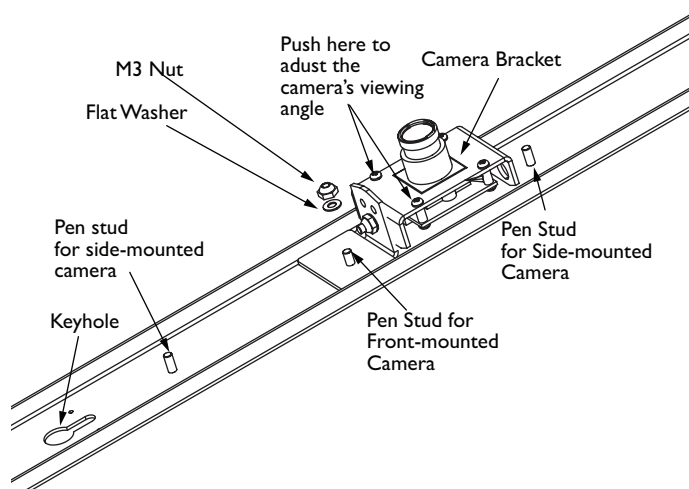

Figure 4 Close up View Camera Position
2. To relocate the existing camera, use a 5.5mm (or 7/32") nut driver to remove the M3 nut that attaches the camera bracket to the base (see **Figure 4**). Remove the camera and bracket from the base.
19. Check the insides of the viewing windows (see **Figure 4**) for any dust or debris. Clean with a Kimwipe™ tissue, if necessary.